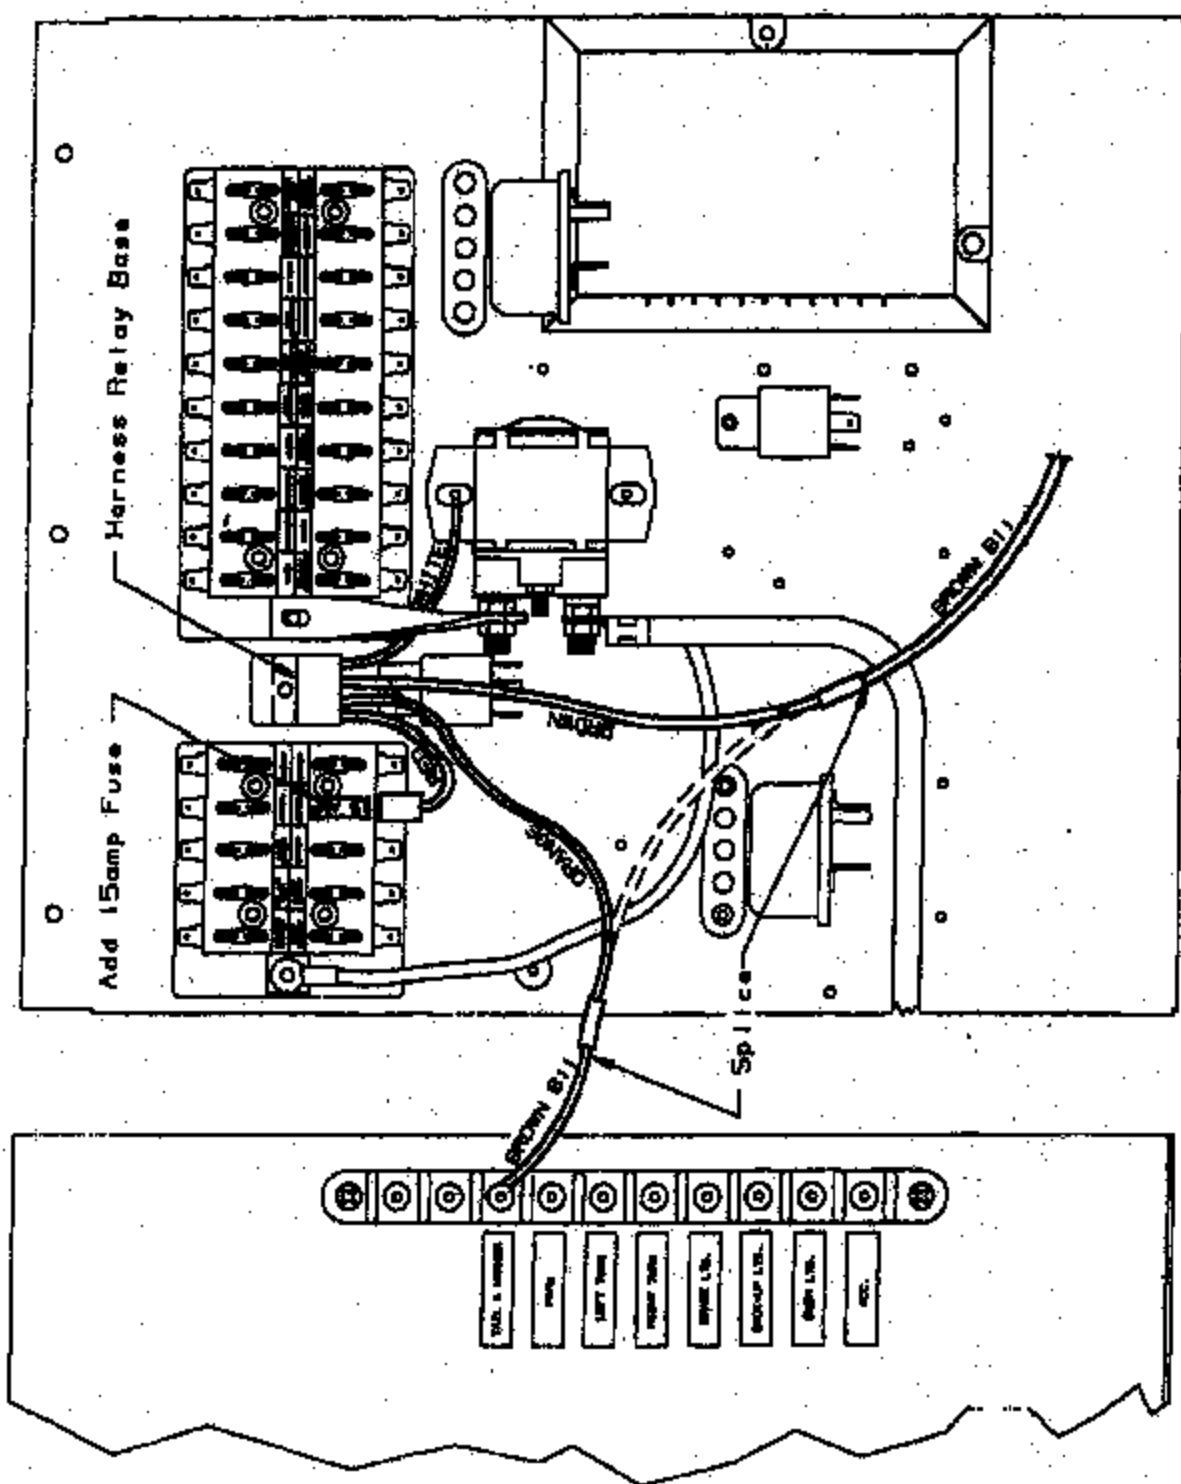

Figure 1
4. Locate the body electrical panel, which is to the rear of the compartment. Mount the relay base, which is part of harness #52004602, to the body panel, as shown in figure 1, with a #10 tapping screw, #27161648. (Harness and Screw are provided in kit #83490007)
8. Locate the brown "B11" wire connected to the 3rd post down of the rearmost junction block on the chassis panel. See figure 1. Cut the wire approximately 6" from the end connecting to the junction block.